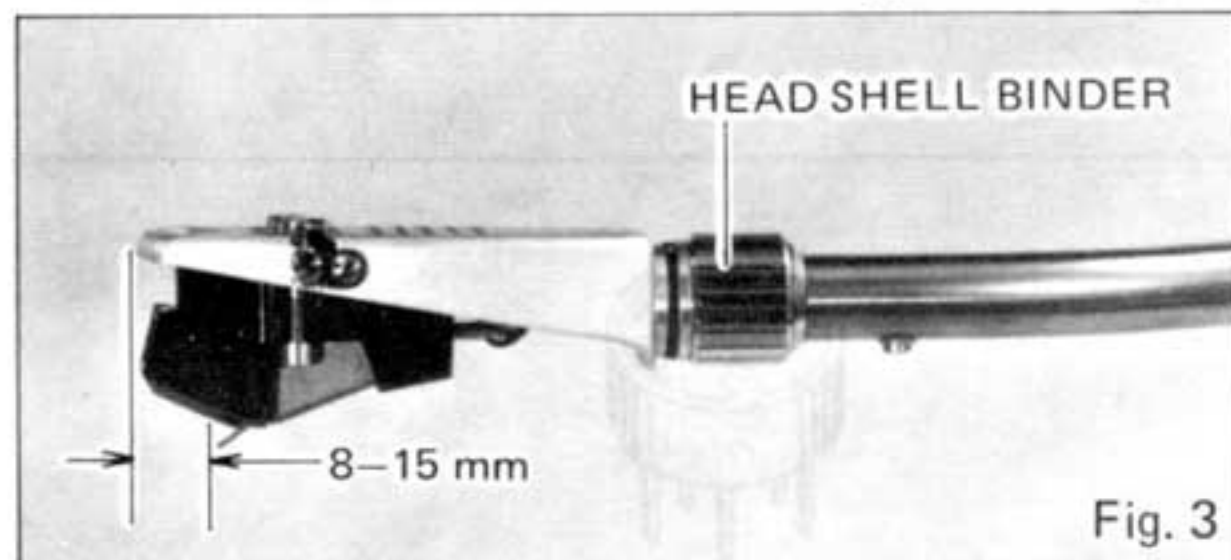

Fig. 3
2. Fasten two screws and fix the cartridge tightly where stylus is just under the standard line and 8 – 15 mm from toe of the cartridge shell. (Fig. 3)